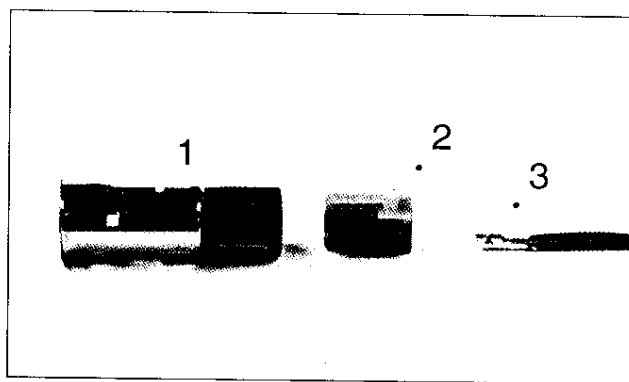

Fig. 21
- Remove the cigar lighter from its receptacle base. Locate the PLASTIC retaining tabs that secure the receptacle base to the receptacle mount on the dashboard. These plastic tabs lock into openings positioned approximately 3/4" from the end of the receptacle base, indicated by arrow #1 in Figure 21. Use external snap ring pliers, a small screwdriver or an angled scribe to disengage the tabs from the receptacle, then gently pull the receptacle out of the dashboard into the passenger compartment.
- Press down on the electrical connector terminal lock (arrow #2, Figure 21) and disengage the connector from the receptacle.
- Locate the switch power supply lead on the switch/harness assembly. This lead is a single white wire, with approximately 1/4" of insulation removed from the end. Pull this wire from behind the dash through the cigar lighter hole. Crimp the end of this wire ALONG WITH the red/orange wire into one of the terminals provided in the kit (arrow #3, Figure 21), making sure the connection is secure.